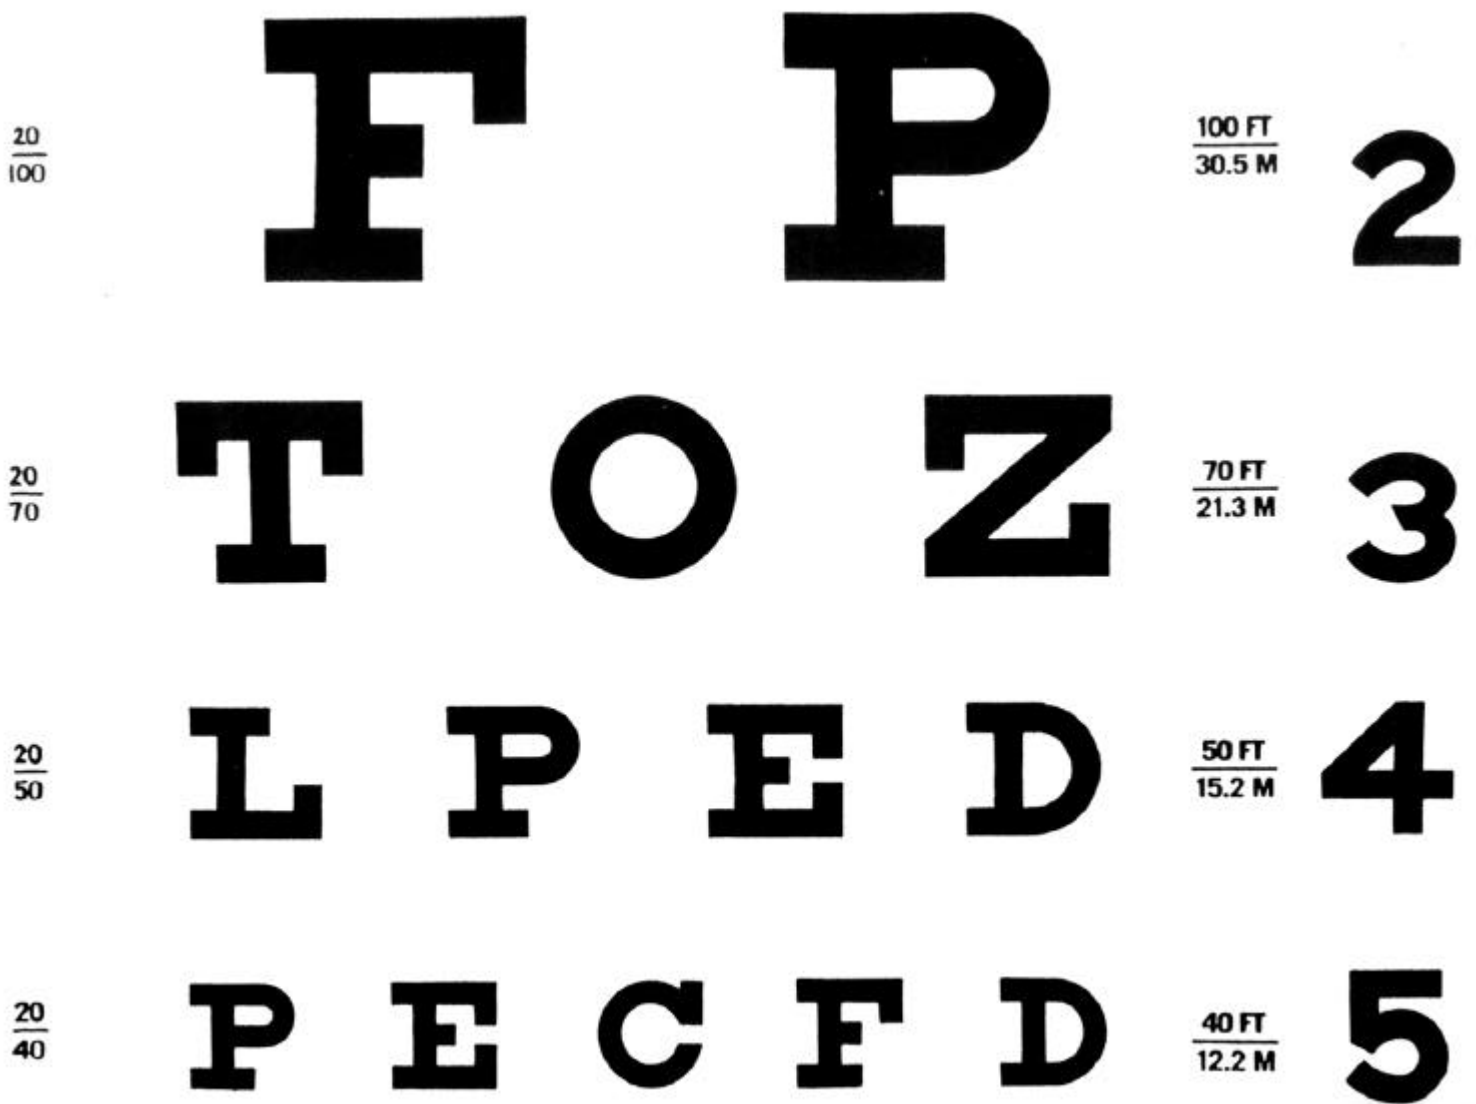

Figure B-1. Distance vision
**B-1. Distance Vision.** The sharpest image will be observed only when the objective lens/lenses and both eyepieces are properly focused. These adjustments operate independently and must be made separately. Adjust distance, diopter, then distance and diopter until the best focus is achieved. When properly focused, the following lines on the eye chart (Figure B-1) should be readable at these distances: